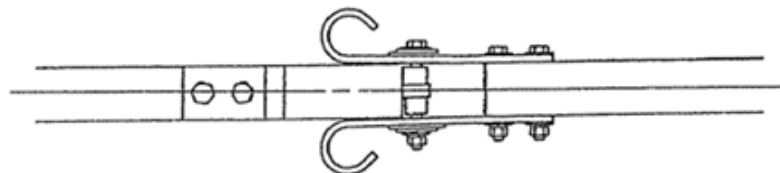

Figure C3: Switch Fully Closed
- Switch is in the fully closed position when the centerline of the Male Blade Assembly is aligned with the centerline of the Female Blade Assembly – **Figure C3**.